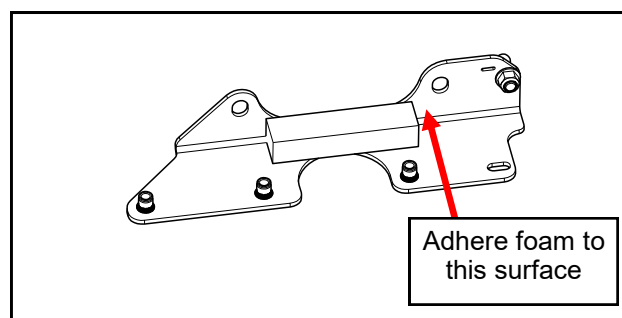

Fig. 8.1 (Gas spring bracket foam)
**8.1** Cut the supplied piece of 1" x 3/4" foam in half to make two pieces approximately 4 inches long. Per figure 8.1, apply the foam to the center of the inside corner of the left and right gas spring brackets.